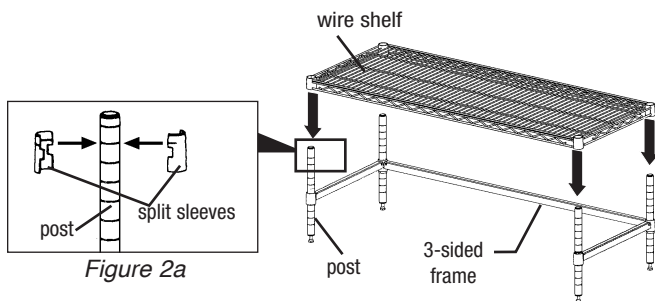

Figure 2a
- Stand the post/frame assembly upright, and snap the split sleeves onto each post at the topmost groove (see Figure 2a).